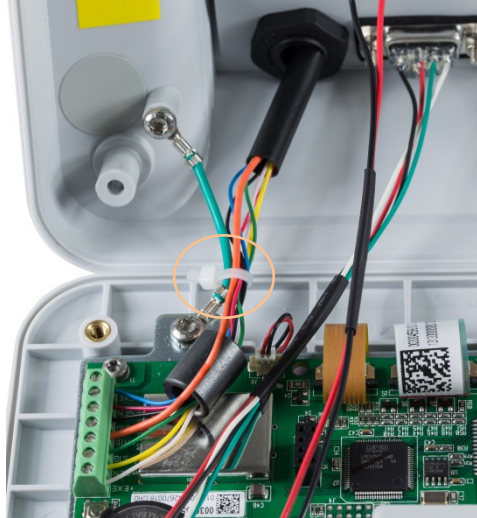

Figure 2-20: Analog Load Cell Pin Grounding and Ferrite Installation, IND231
1. The load cell cable is routed into the enclosure as indicated in Figure 2-20.